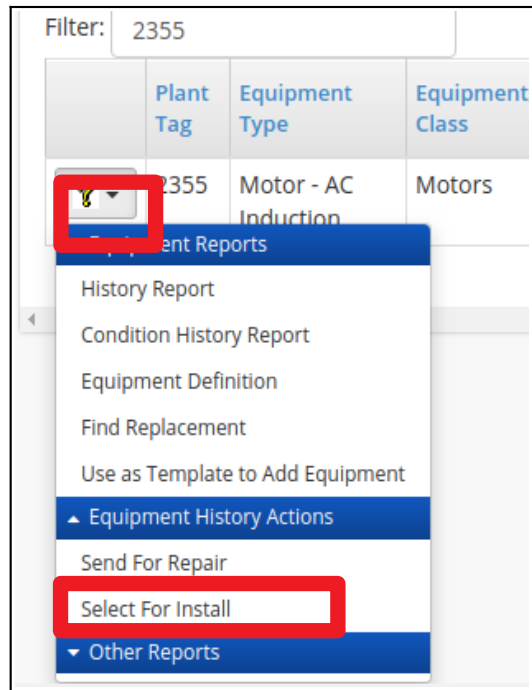

Figure 41
- When the search results appear, choose the icon next to the equipment to be repaired (Fig. 41). Under Equipment History Actions, choose Select for Install.